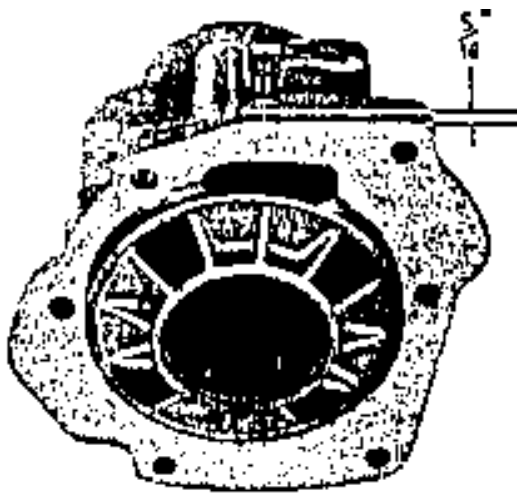

Fig. 4
2. Locate a point on top of the extension housing 1 1/2" left of the upper right bolt hole in the housing and 3/16" rearward from the machined face of the housing. (See Fig. 4)